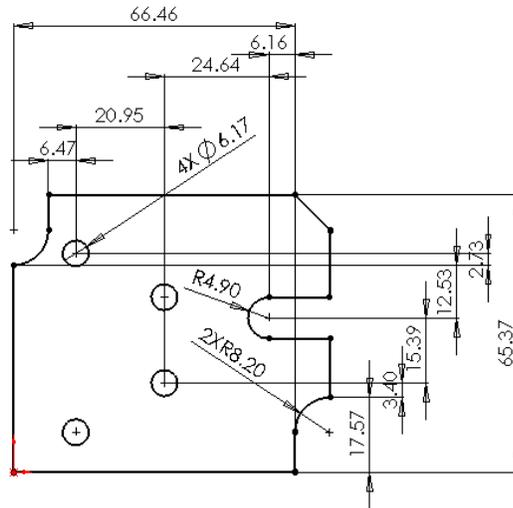
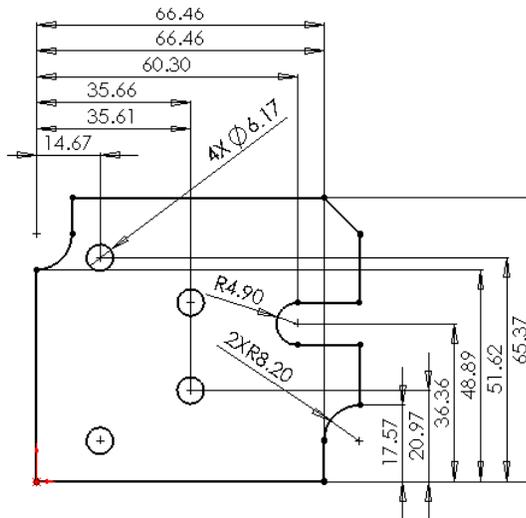
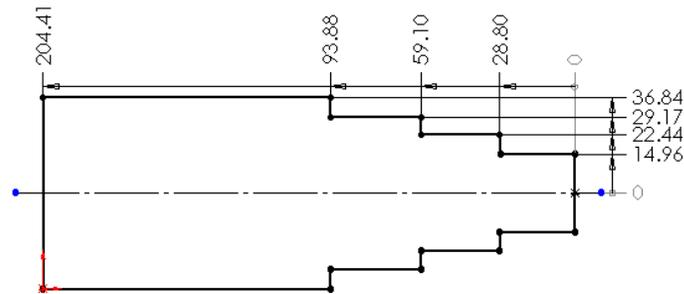

Figure 4-2 Chain dimension created using autodimension option
Figure 4-3 Baseline dimension created using autodimension option
Figure 4-4 Ordinate dimension created using autodimension option
After specifying all the parameters in the **Autodimension Sketch PropertyManager**, choose the **OK** button or choose the **OK** icon from the **Confirmation Corner**. The dimension will be created with the selected dimension scheme. Figure 4-2 shows the autodimension created using the **Chain** scheme. Figure 4-3 shows the autodimension created using the **Baseline** scheme. Figure 4-4 shows the autodimension created using the **Ordinate** scheme.
*As evident in Figures 4-2 through 4-4, the dimensions added using the **Autodim** option are not properly arranged. You need to manually place them at their proper location.*